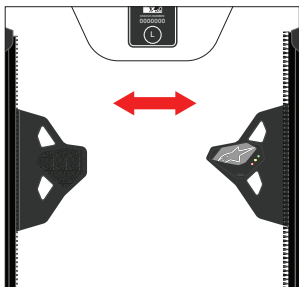

Figure 13: How to switch off the System;
To keep the System turned off, keep the Front Flap (3) open and unzipped as shown in Figure 13. Always keep the System in this condition while stored, transported, or shipped.
WARNING! ALWAYS turn the System off by opening the Front Flap (3) as shown in Figure 13 when you are not riding a motorcycle, even if you continue to wear the System. Although the System has been evaluated for a number of non-riding activities, keeping the System turned on and/or active increases the possibility of an unwanted deployment as well as drains the battery.